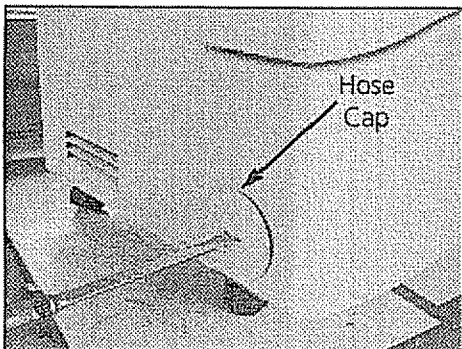

Figure 3
**Note:** When using either of the above direct draining methods, you must first drill a 3/8" (10 mm) hole in the center of the bucket connection. (For ease of drilling use locating mark to center drill bit for hole (Figure 3).) This will allow water to flow freely through the connection. To reseal the hose connection to the bucket, use any standard hose end cap. **The hose cap cannot be used to reseal the hole.**